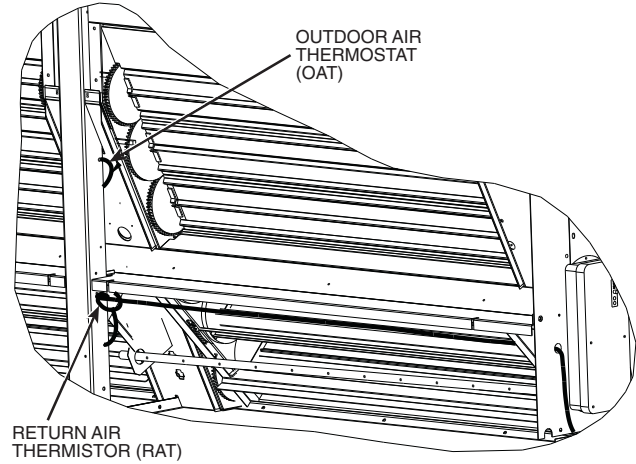

Fig. 35 — OAT Location
Step 8 — Position Outdoor Air Thermostat (OAT) — Cut wire tie that secures OAT to the inner frame of unit (see Fig. 34). Extend OAT to economizer hood and secure with screw in the pre-punched hole (see Fig. 35).